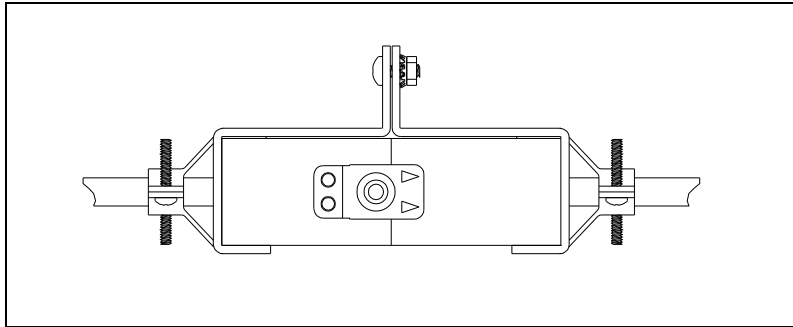

Figure 3. Position of disengagement-prevention brackets
- Plug the subset plug into receptacle J1. Attach the disengagement-prevention brackets and screw together. See Figure 3.